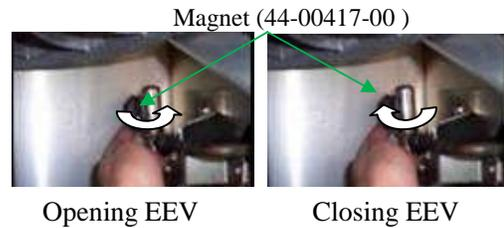

Figure 2
5. Place magnet (p/n 44-00417-00) next to coil stem (figure 2) and rotate it around the stem to open or close valve (one turn [360°] approximately 0.5 bars (7 psig)).